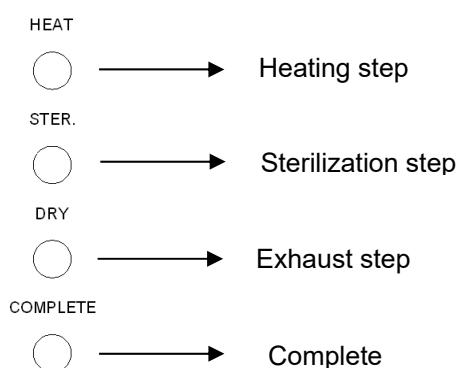

Figure 24
G.4 Turn the “Liquid Sterilization” switch to ON(I) position for liquid sterilization, see “5.2.3.3 Control Panel – Liquid Function (optional)” for reference.
G.5 Press the START Button. The current progress of the sterilization cycle is indicated on the Process Status Indicator. (Figure 24)